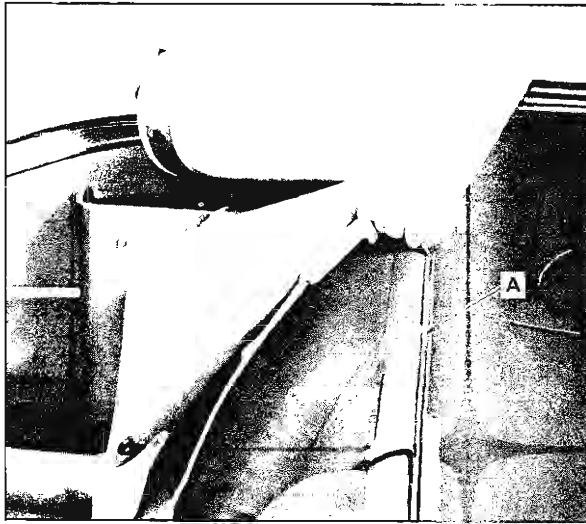

Fig. 21-13 Slide Boot Into Retainer
1. Slide front edge of boot into retainer "A" along seat back (Fig. 21-13). Center boot for proper engagement of snap fasteners.